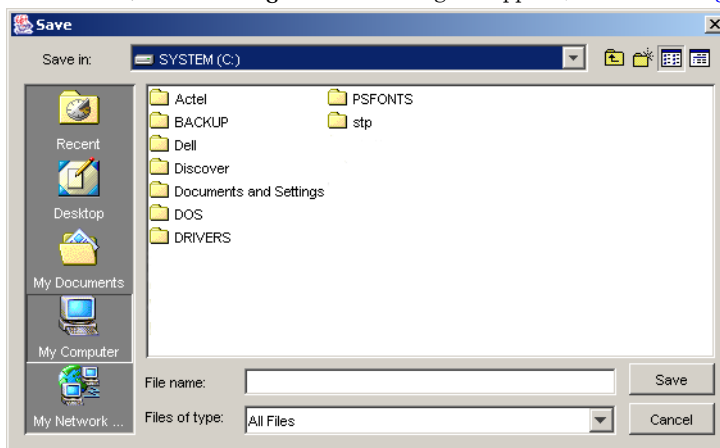

Figure 4-22. Save Dialog Box
1. From the *File* menu, click *Save Log*. The Save dialog box appears, as shown in Figure 4-22.